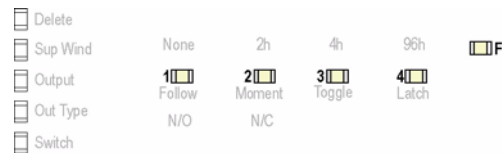

Figure 4 Select the Output to Program
- Use the **Advance** button to select any of the four transmitter points or the fault output (Fig. 4):